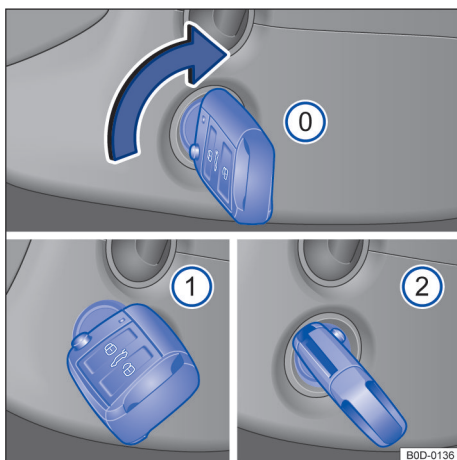

Fig. 83 To the right of the steering wheel: positions of the vehicle key in the ignition lock.
Location of vehicle key → Fig. 83
- *Vehicles with ignition lock:* Turn the vehicle key to position → Fig. 83 ①. Switch on the ignition.
- *Vehicles with ignition lock:* turn the vehicle key in the ignition lock to position → Fig. 83 ② without depressing the accelerator.
Never use the engine for driving or towing the vehicle in gear with the key in the ignition position → Fig. 83 ②, for example when the fuel tank is empty. This may damage the engine.
- *Vehicles with ignition lock:* Turn the vehicle key in the ignition lock to position → Fig. 83 .